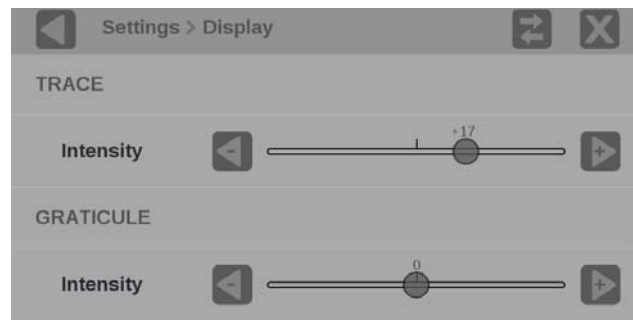

Figure 76: Trace and graticule intensity sliders
When you select **OK**, the preset name changes from *<empty>* to *Preset<number>*, where the number is the preset position within the preset group. (See Figure 76.)
3. Use the ➡️ icon to increase intensity or the ⬅️ icon to decrease intensity of the trace or graticules. (See Figure 76.)